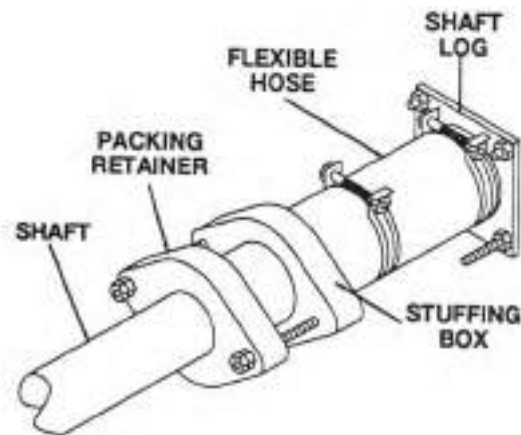

Figure 5-6 – Propeller Shaft Stuffing Box
4. Check propeller shaft and rudder stuffing boxes for leakage. Adjust retainer or repack box as required. (See **Figures 5-6** and **5-7**.)